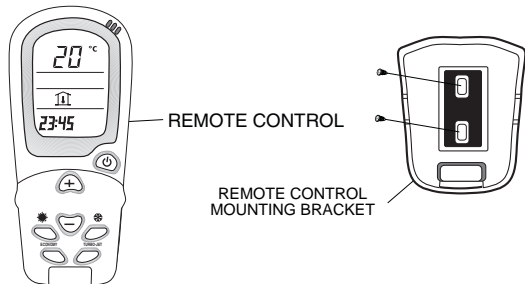

Fig. 10 — Attach Mounting Bracket to the Wall
1. Use the two screws supplied with the controller to attach the mounting bracket to the wall in the location selected by the customer (see Fig. 10).